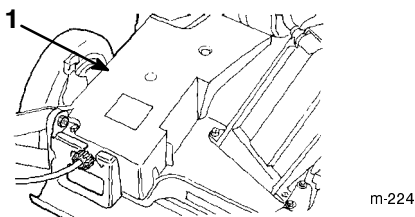

Figure 27
2. Remove the bolts that secure the belt cover (Fig. 27) to the lawn mower housing.